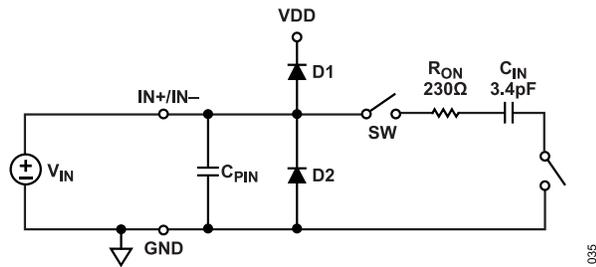

Figure 38. Equivalent Analog Input Circuit
Figure 38 shows an equivalent circuit for each of the AD4052/AD4058 analog inputs (IN+ and IN-). The analog inputs are modeled as a switched capacitive load. During the acquisition phase, the sampling switch (SW) connects each input pin to the 3.4 pF sampling capacitor (C_{IN}) in series with the 230 Ω switch on resistance (R_{ON}). During the conversion phase, SW disconnects to sample the voltages on the IN+ and IN- pins onto the sampling capacitors. D1 and D2 represent the ESD diodes from the IN+ and IN- pins to the VDD supply and GND, respectively. C_{PIN} represents the pin capacitance of each input pin to GND and is typically 2 pF.